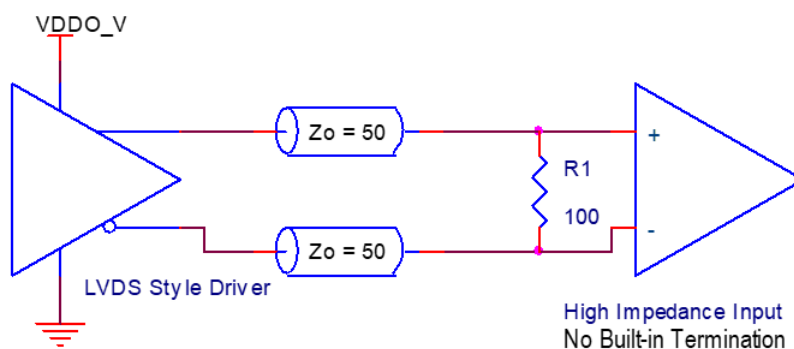
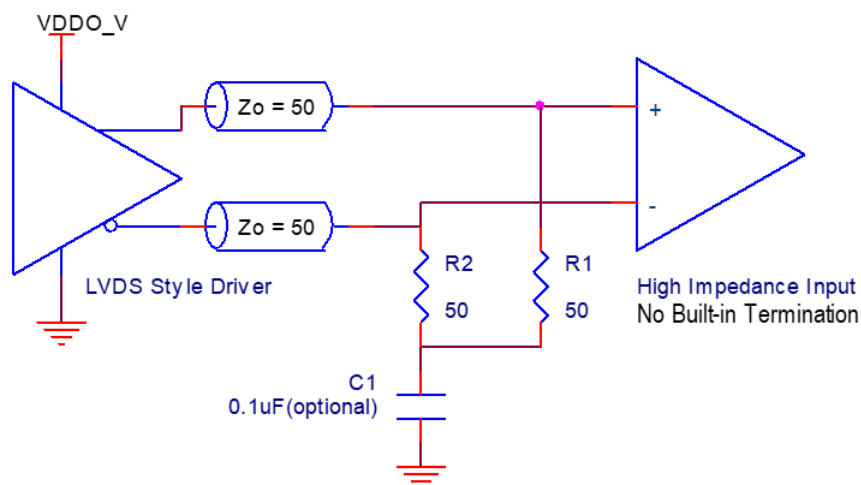
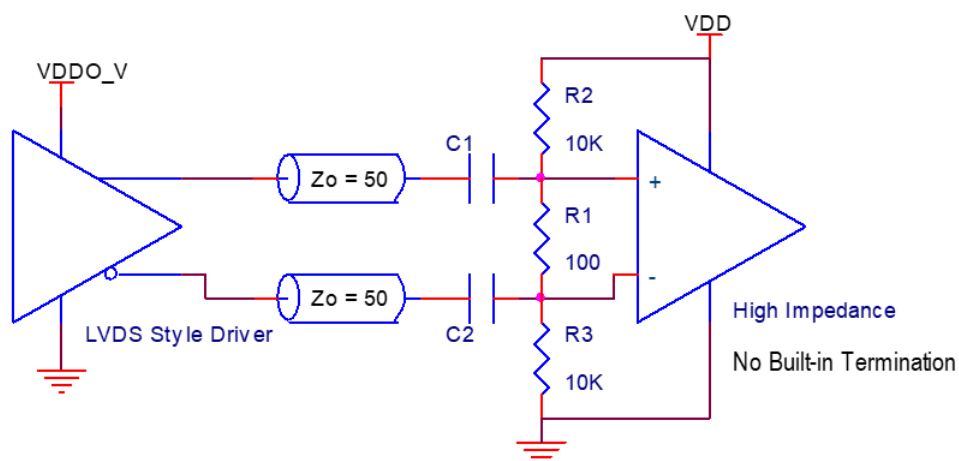

Figure 30. LVDS Style Driver Termination (DC Coupled)
Figure 31. LVDS Style Alternative Driver Termination (DC Coupled)
Figure 32. LVDS Style Alternative Driver Termination (AC Coupled)^[2]
Unlike the LVPECL style driver, the LVDS style driver does not require a board-level pull-down resistor. Figure 30 and Figure 31 show typical termination examples with DC coupling for the LVDS style driver. A termination example with AC coupling is shown in Figure 32. All three of the figures are for LVDS receivers with a high-input impedance (no built-in 100Ω termination).
- For receivers with built-in 100Ω termination that provides its own DC offset (self-bias): Apply the AC-coupled termination shown in Figure 32 and do not populate the resistors R1, R2, and R3.